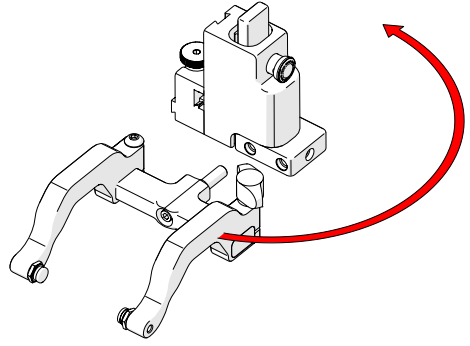

Fig. 97 - Orient to opposite side
2. Position the yoke and arms on the opposite side of the probe holder (Fig. 97).